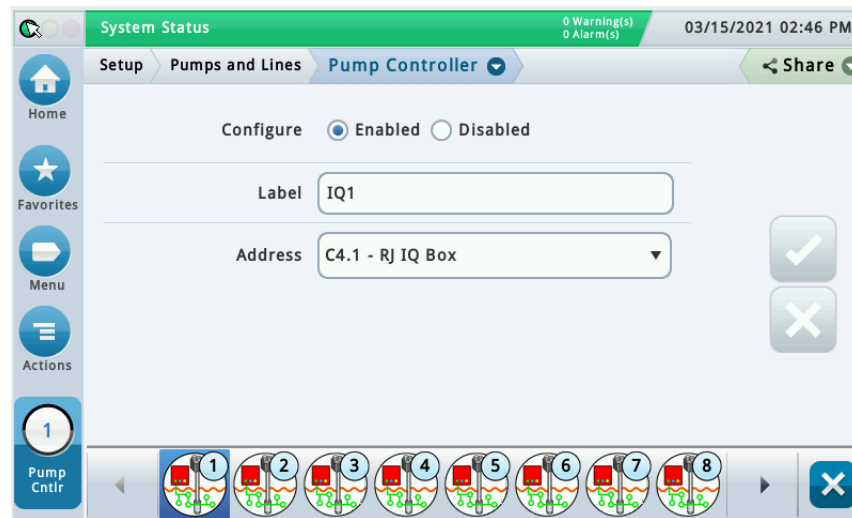

Figure A-13. RJ Control Box Setup Screen - Unit 1 Example
1. At the TLS-450PLUS display touch **Menu>Setup>Pumps and Lines>Pump Controller** and select Pump Cntrl #1 (see Figure A-13).